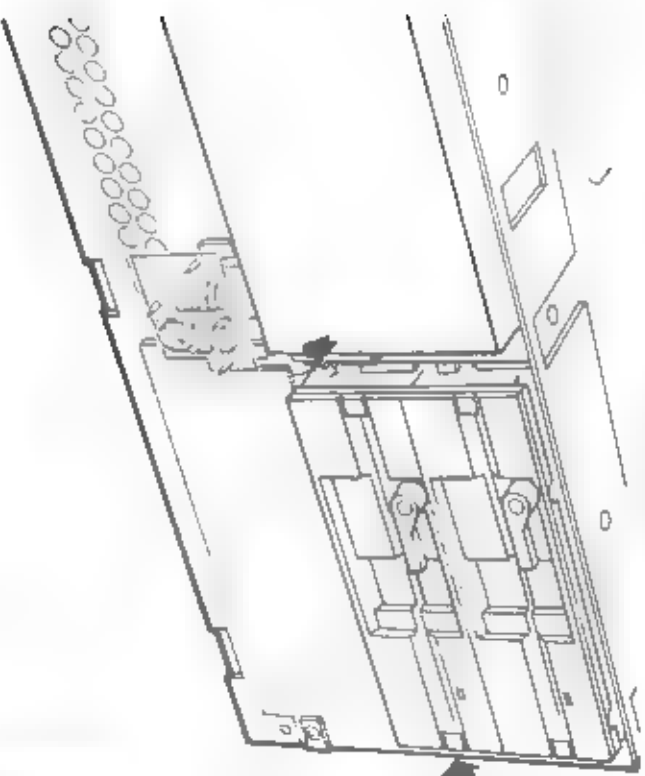

Figure 11-10 Secure the Drive
3. Using the stoppers and mounting screws are moved in step 1, fasten the drive securely in place (Figure 11-10).